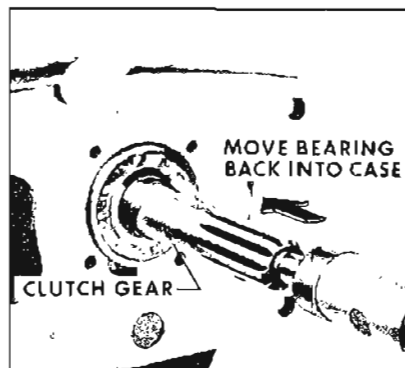

Figure 4-16—Clutch Gear Bearing Removal
9. Tap the end of the clutch gear with a soft hammer, moving the bearing and gear assembly back into the case. Remove the assembly thru the rear of the case. See Figure 4-16.